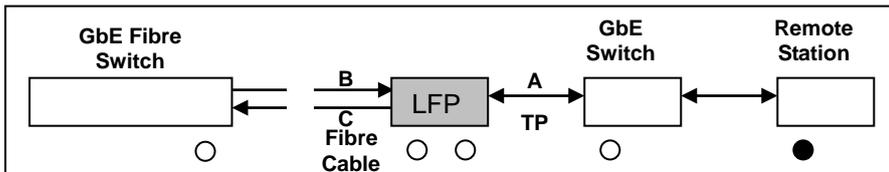

Fig. 10 The status as Fibre Cable B or C is broken
*The Link Failure Propagation (LFP) function only takes effect when S1-Bit4 (see Fig. 10) is enabled. When S1-Bit2 is disabled the media converter will function normally.*